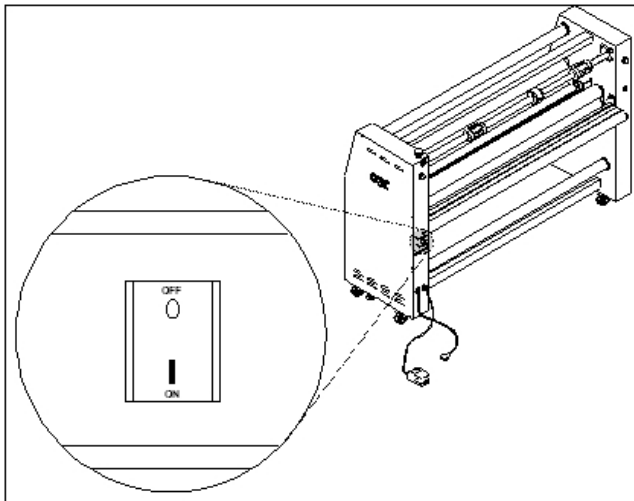

Fig 5
A. POWER ON/ OFF: (Figure 5) Located at the back left of the machine applies power to the laminator. The control panel display will illuminate when position marked "I" is pushed. The off position, marked "O", removes power from the laminator.